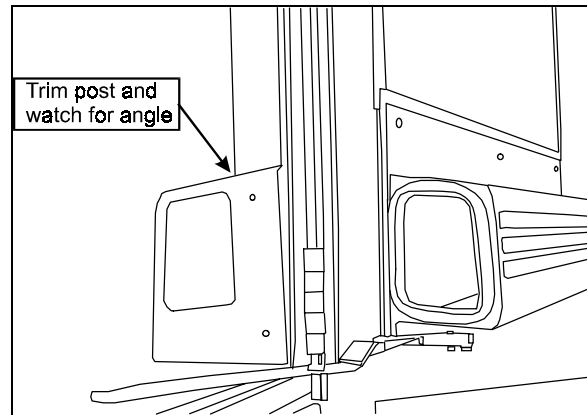

FIGURE 8
7. Trim the post and install (refer to figure 8).